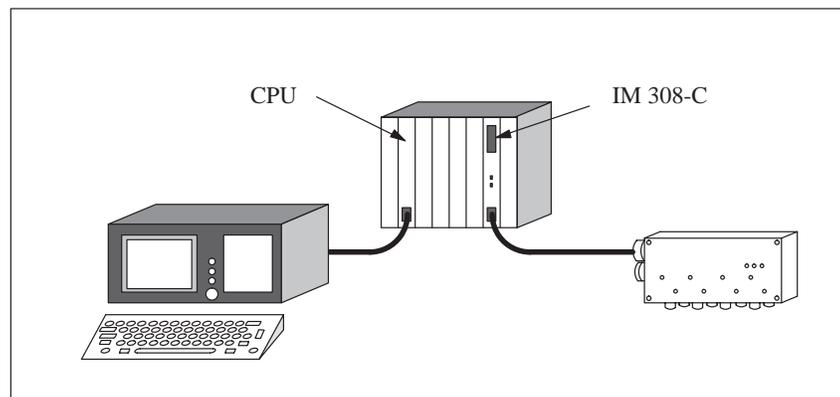

Figure 9-2 Using the FB IM308C to assign a PROFIBUS address to a DP slave
3. Connect the programmer to the AS 511 interface of the CPU and set up a configuration as shown in Fig. 9-2 :